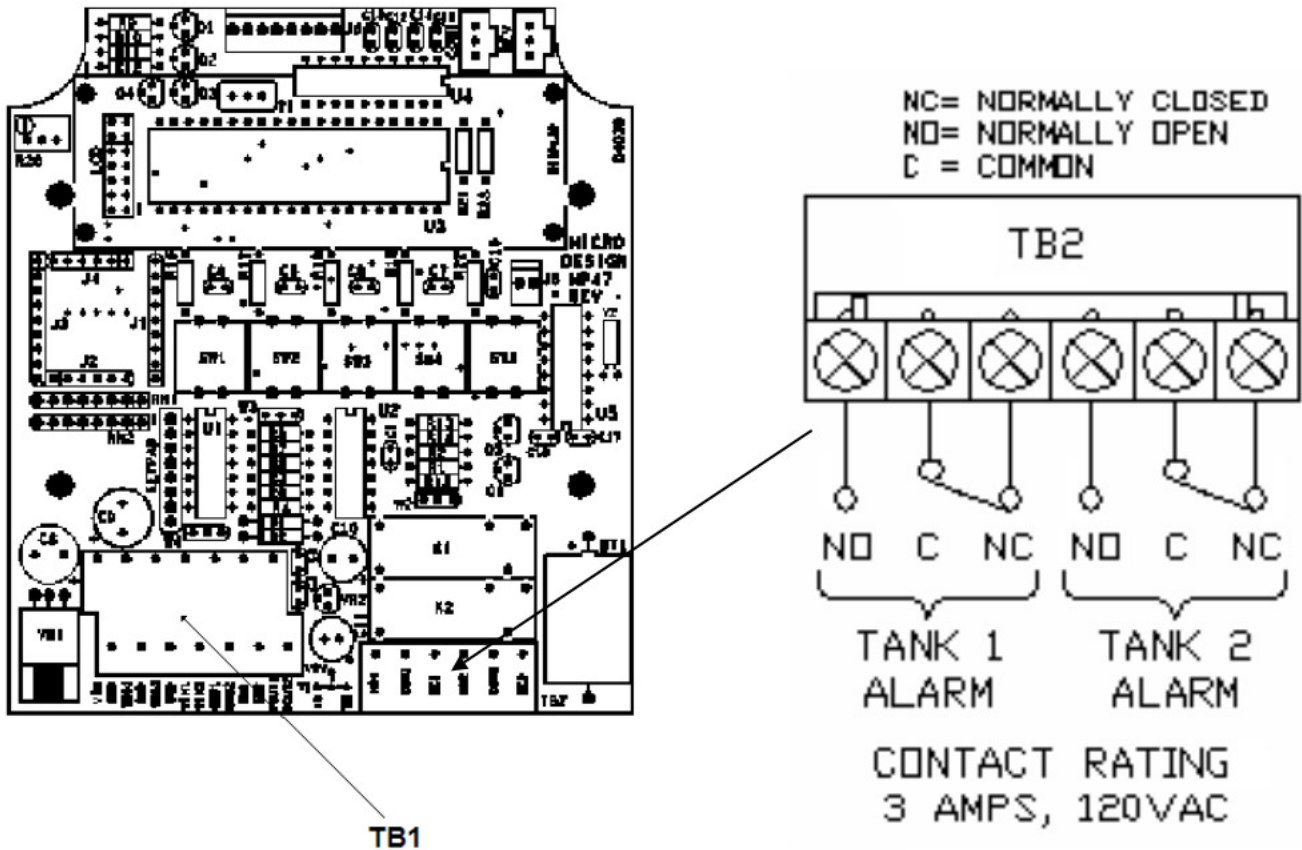

Figure 5
- 4) Connect Relay contacts and Analog outputs as desired. Refer to Figure 5 and 6 respectively for connection details.
An alarm relay is available for each channel that provides a Form C (NC-C-NO) contact rated at 120 VAC at 3 Amps. The alarm is activated whenever the actual tank level is either lower than the LO set point or higher than the HI set point. The relay is de-activated when the level is restored within the normal operation range. Figure 5 below show connection details for the contacts.